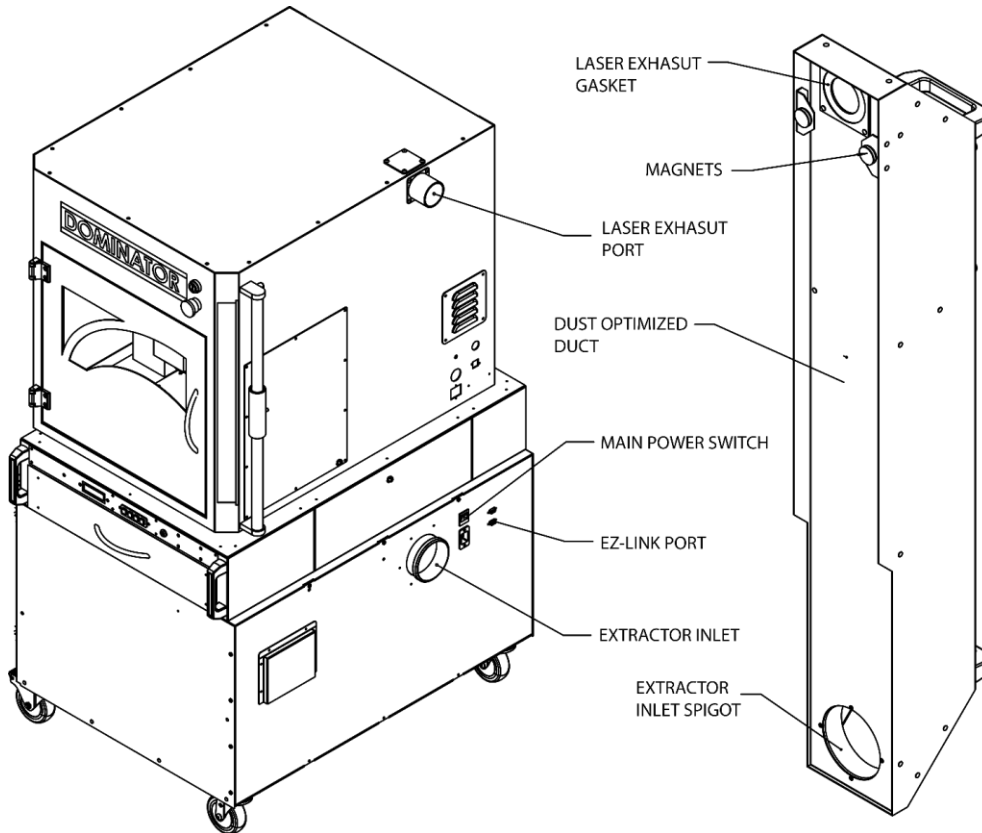

Figure 1. Ports and Spigots
A dust optimized duct is supplied with the fume extractor. This duct connects the extractor inlet to the laser exhaust port, see Figure 1.
2. The fume extractor is set to “Link” mode by default. This means that the fume extractor will turn on when a laser job is initiated and will stop when the laser job is done. For this to work, the supplied EZ-link cable must be installed between the laser and the fume extractor, see Figure 1. If you wish to control the fume extractor manually, please refer to the user manual.